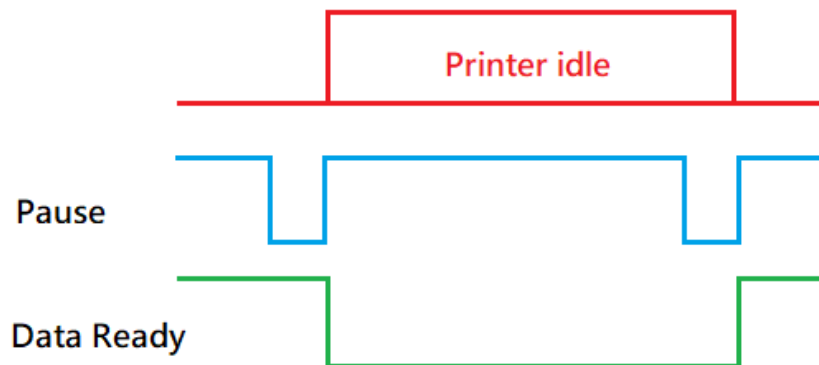

Figure 6
- c. The timing chart is as Figure 6